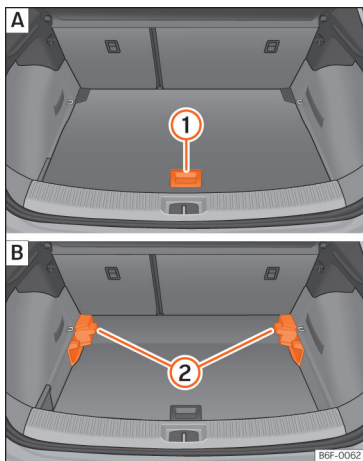

Fig. 145 Variable luggage compartment floor:
- To move from the low position to the high position, lift the floor using the handle »» Fig. 145 ①, and pull it back until the front of the floor has fully passed the supports ②.
- Move the floor forward over the supports as far as the rear seat backrest and then lower the floor with the handle ①.
- To move from the high position to the low position, lift the floor using the handle »» Fig. 145 ①, and pull it back until the front of the floor has fully passed the supports ②.
- Now let the front part fall to the floor and slide the floor forwards as far as the rear seat backrest; lower the floor at the same time with the handle ①.
- Lift the variable floor in the high position using handle »» Fig. 145 ①, pull it up and push it towards the backrest of the rear seats until it folds along the hinge line and the movable part of the floor is resting on itself.